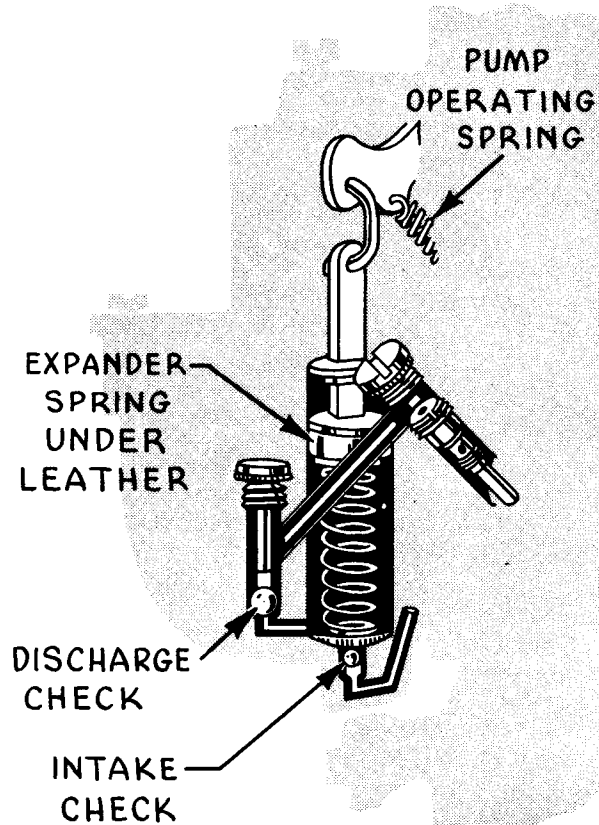

FIG. 1
- (a) Change the pump operating lever spring from Part No. 533458 (Carter No. 61-228) to Part No. 519686 (Carter No. 61-252). This latter spring was used in the 715S carburetor for 12G models. See Fig. 1.
No. 908863 (Carter No. 61-157). The latter spring is used in the current 2R Series Truck Carburetor. See Fig. 1.